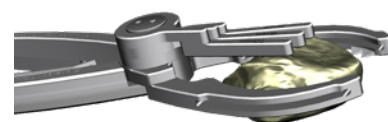

Figure 38
2. Determining the depth of cut (usually based on patella implant thickness) and dial in the stylus on the patella saw guide to have the corresponding resection level. Clamp the patella between the jaws of the guide (Figure 38).
3. Resect the patella through slots of the dedicated saw guides (Figure 38).